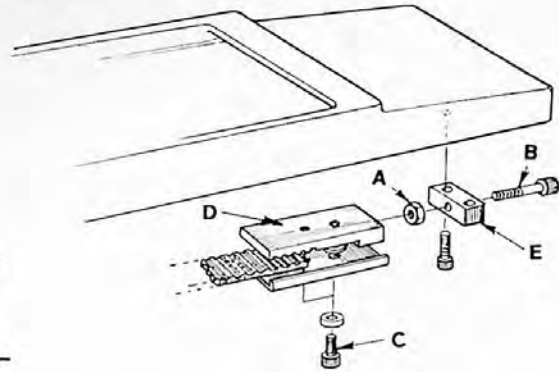

Fig. 5G. Construction at right end of table drive belt.
2. Back off the belt tension locknut (A, Fig. 5G) at the right end of the table.
3. Loosen the belt tension screw (B).
4. Loosen the belt plate clamp screws (C) and release the belt.
10. Clamp the belt to the belt tension block (D).
11. Adjust the belt tension to allow the screw (B) to move sideways in its support (E). Do not overtighten.